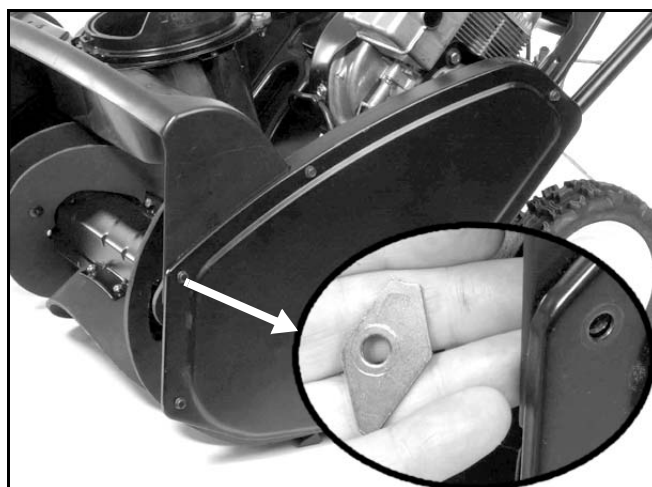

Figure 22
8. Remove the belt cover (3 bolts and 2 screws) (Figure 22). Some models were built with a diamond shaped washer.